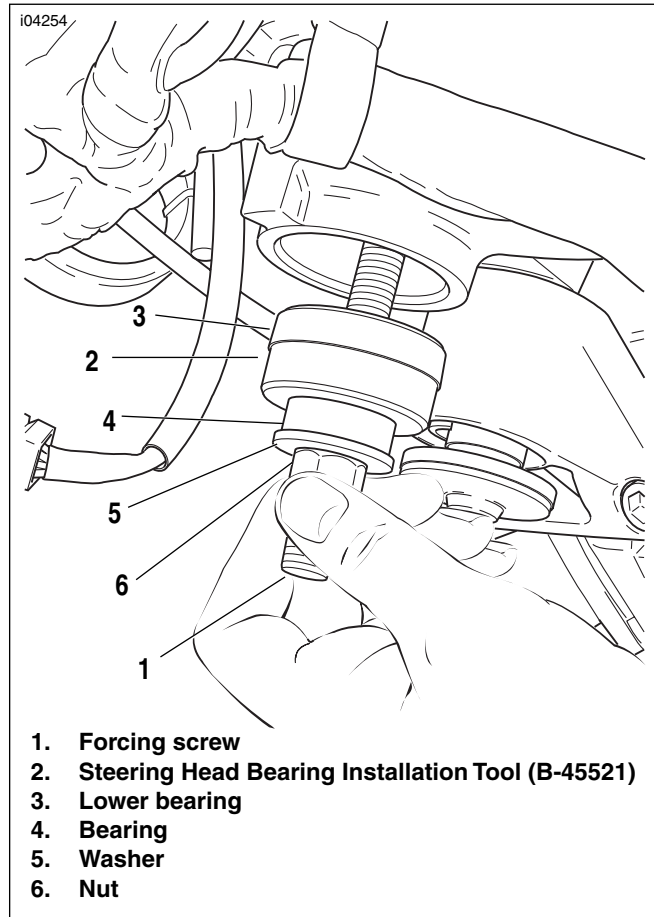

Figure 2-79. Lower Bearing
2. See Figure 2-79. Sparingly apply EXTREME PRES-SURE LUBRICANT (Part No. J-23444-A) to the threads of the forcing screw (1) from the STEERING HEAD BEARING RACE INSTALLER (Part No. HD-39302), to prolong service life and ensure smooth operation. Insert the forcing screw (1) through the STEERING HEAD BEARING INSTALLATION TOOL (Part No. B-45521) (2).
4. Install the bearing (4), washer (5) and nut (6) from the STEERING HEAD BEARING RACE INSTALLER (Part No. HD-39302) onto the forcing screw (1).
5. Tighten the nut (6) by hand, until the bearing is started into the bore in the steering head.